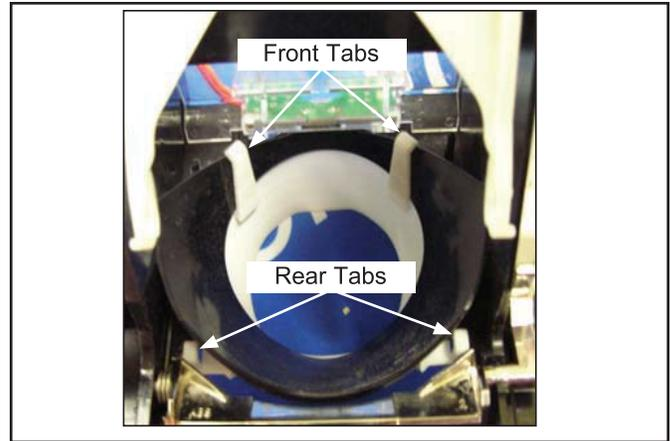

Figure 6-5.
2. Push straight back on the extension to release the rear tabs. (See Figure 6-5)